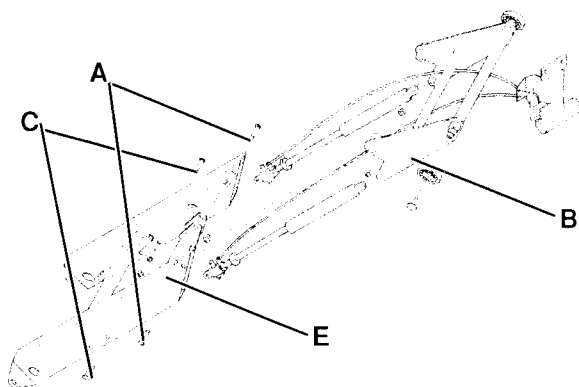
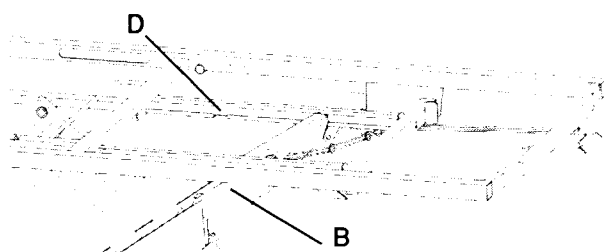

Figure 2
Figure 3
Note: There is always a clamp on the two upper shafts (A) (see figure 2).
7. While holding the foot end of the bed frame, remove the Truarc rings from the upper shafts (A) of the pivoting section (B) then remove the two corresponding shafts (see figure 2) using the mallet and the pin punch.
8. While continuing to hold the foot end of the bed frame, remove the Truarc rings from the lower shafts (C) of the pivoting section (B) then remove the two corresponding shafts (see figure 2) using the mallet and the pin punch.
Note: There are two close drillings on the crossbar (E) for the shafts (C) (see figure 2). These shafts are always placed in the upper drilling.
9. Slide the pivoting arm (B) to its guiding rails, toward the foot end of the bed, while raising the latter in order to extract all cylinders from the elevation arm.
10. Slide the pivoting arm (B) toward the center of the bed frame in order to bring the rollers along to the opening (D) of the guiding rails, while moving the bed into Trendelenburg (see figure 3).
Note: Cables run under the elevation arm (B) and shafts (A) (see figure 2).